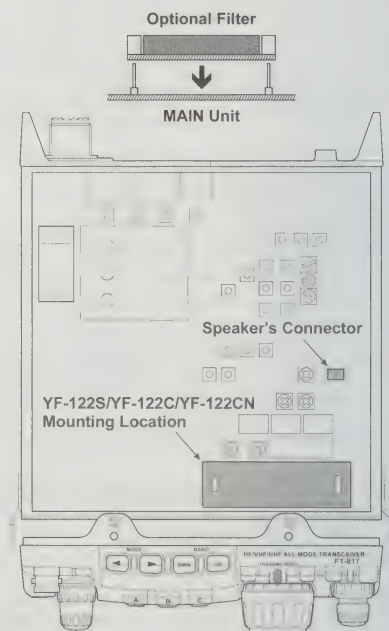

Figure 2
3. Refer to Figure 2 for the mounting locations for the optional filters. Position the filter so that its connectors are aligned with the mounting pins on the board, and push it into place.